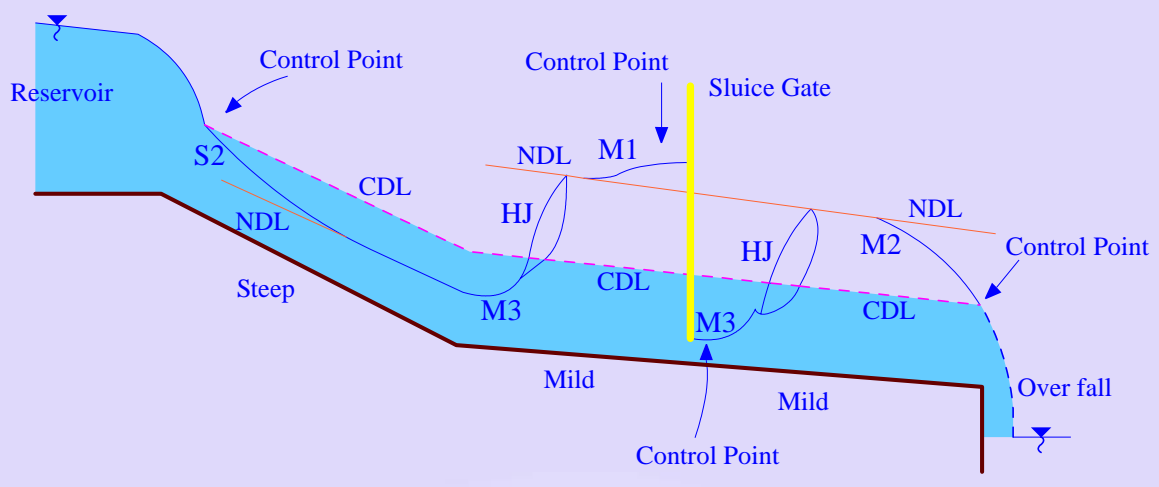

Figure 24.5: Solution for Example 24.2
- Keeping in mind the above points, the composite water surface profile can be drawn as shown in Figure.24.5.